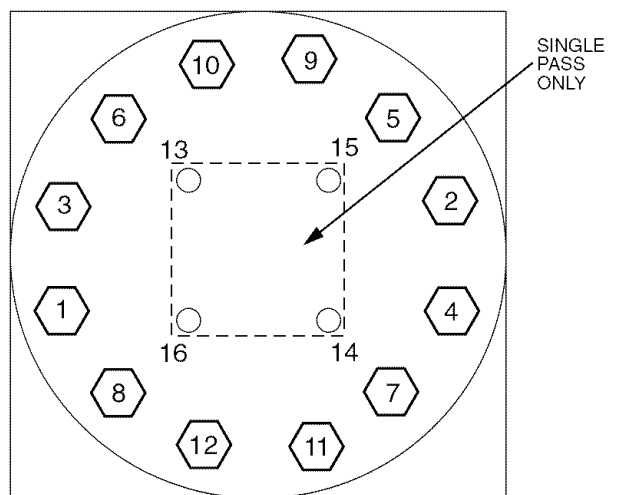

Fig. 37 — Cooler Head Recommended Bolt Torque Sequence
2. Bolt tightening sequence is outlined in Fig. 37. Follow the numbering or lettering sequence so that pressure is evenly applied to O-ring.